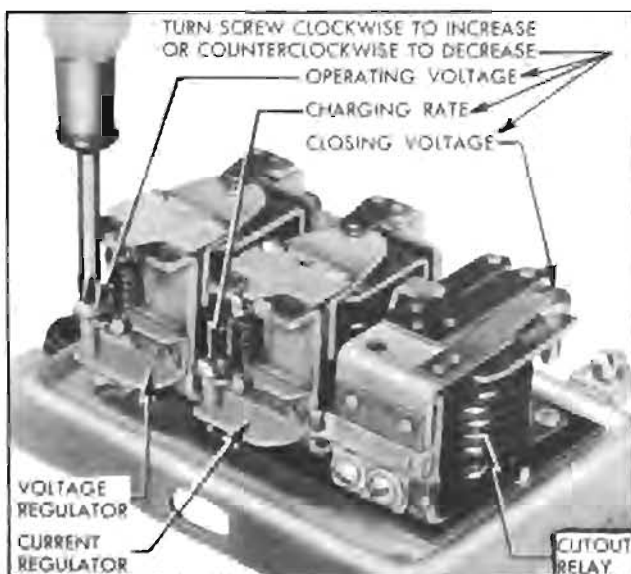

Figure 10-20—Generator Regulator Spring Tension Adjustments
11. If cutout relay operation is otherwise satisfactory but closing voltage is not between 5.9 and 6.8, remove regulator cover and adjust relay armature spring tension to obtain closing voltage of 6.4. Adjusting screw has a *left-hand thread*, therefore turning screw clockwise increases spring tension and closing voltage; turning screw counterclockwise decreases closing voltage. See figure 10-20. *After adjustment, install cover and recheck closing voltage.*
19. If contact points are in satisfactory condition but either the voltage or current regulator did not operate within specified limits, adjust armature spring tension as required. Turn adjusting screw clockwise to increase operating voltage or charging rate; turn counterclockwise to decrease operating voltage or charging rate. See figure 10-20. *The final setting must always be made by turning screw clockwise to increase voltage or charging rate—never by turning screw counterclockwise.*
10. If relay closing voltage is not between 5.9 and 6.8, remove regulator cover and adjust relay armature spring tension to obtain closing voltage of 6.4. Adjusting screw has a *left-hand thread*, therefore turning screw clockwise increases spring tension and closing voltage; turning screw counterclockwise decreases closing voltage. See figure 10-20. *After adjustment, install cover and recheck closing voltage.*